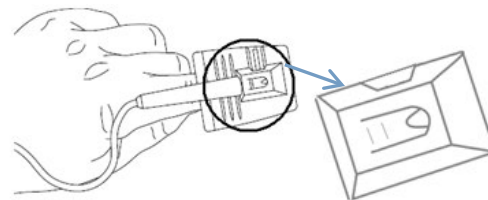
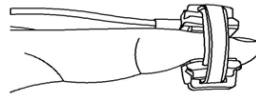

Figure 2 Finger Rubber Probe
Figure 4(A/B) Y-type Probe on Finger/on Sole
3. For Adult Finger Rubber SpO2 Probe, insert one finger (index finger is preferred, but middle or ring finger with proper nail length is possible as well) into the probe according to the mark on the probe cap, as shown in Figure 2. Note that the finger should be inserted deeply enough so that the light emitted from the opto-probe (at one side of Y-type probe) will transmit through the finger bone for light scattering before reaching to the receiving part of the Y-type probe.
4. For Universal Y-type with Rubber Wrap SpO2 Probe, it can be wrapped onto finger or sole (especially for infant). This probe is shown in Figure 2 with open status, the rubber wrapper can be removed from the Y-type probe for cleaning, the wrapper fixation can be adjusted for probe alignment and proper tightness. Place the Y-type probe into its seating position within the wrapper and open the wrapper belt before wrapping onto finger or sole. When used on finger, put the finger inside the wrapper so as it is between the two sides of Y-type probe, then wrap the wrapper belt around the probe as illustrated in Figure 4(A). When used on sole, place the sole within the wrapper and wrap it up around the sole, then tighten the rubber belt with proper force as illustrated in Figure 4(B), it is strongly recommended to use self-adhesive gauze to fix the probe cable nearby the measuring site, so that the relative moving between the probe and the part to be measured could be avoided to increase signal quality.